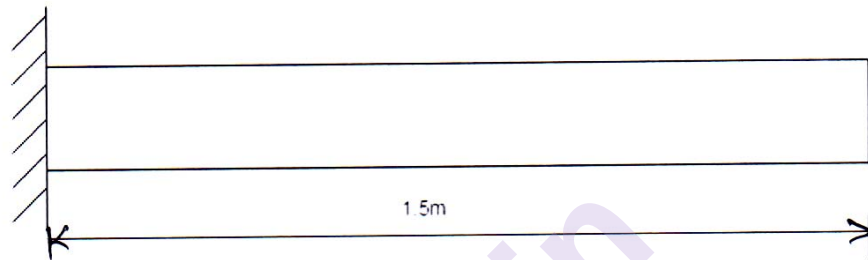

Fig. 4
- Q8) a)** The bar shown in Fig. 4 having uniform cross- section with cross-section area $A = 50 \times 10^{-6} \text{ m}^2$, length $L = 1.5\text{m}$, modulus of elasticity $E = 2 \times 10^{11} \text{ N/m}^2$ and density $\rho = 7800 \text{ kg/m}^3$. Estimate the natural frequency of bar. Model the bar by using two elements. [12]